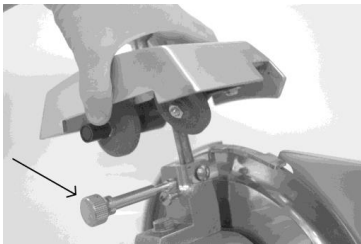

Figure 15
1. Loosen the sharpener release knob and pull the sharpener up to remove it (See Fig. 15).
4. Put several drops of oil on the main shaft (See Fig. 15), place the sharpener back into position and tighten the sharpener release knob.